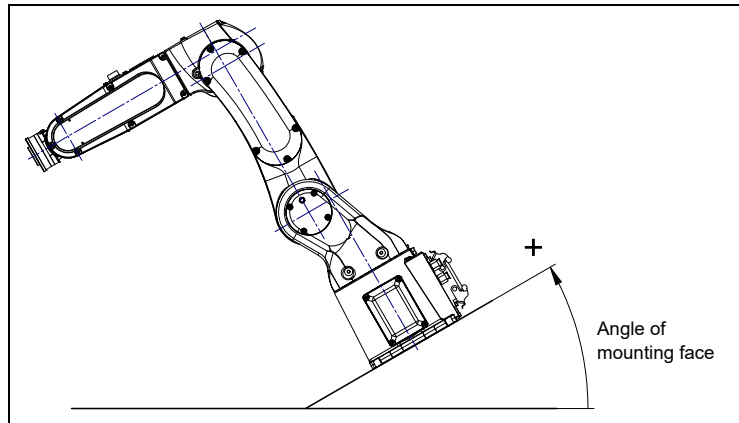

Fig. 1.2.1 (a) Robot mounting angle
- 6 Input the mount angle referring to Fig. 1.2.1 (a). 7H Downward wrist zero specification is restricted to floor mount and upside-down mount.